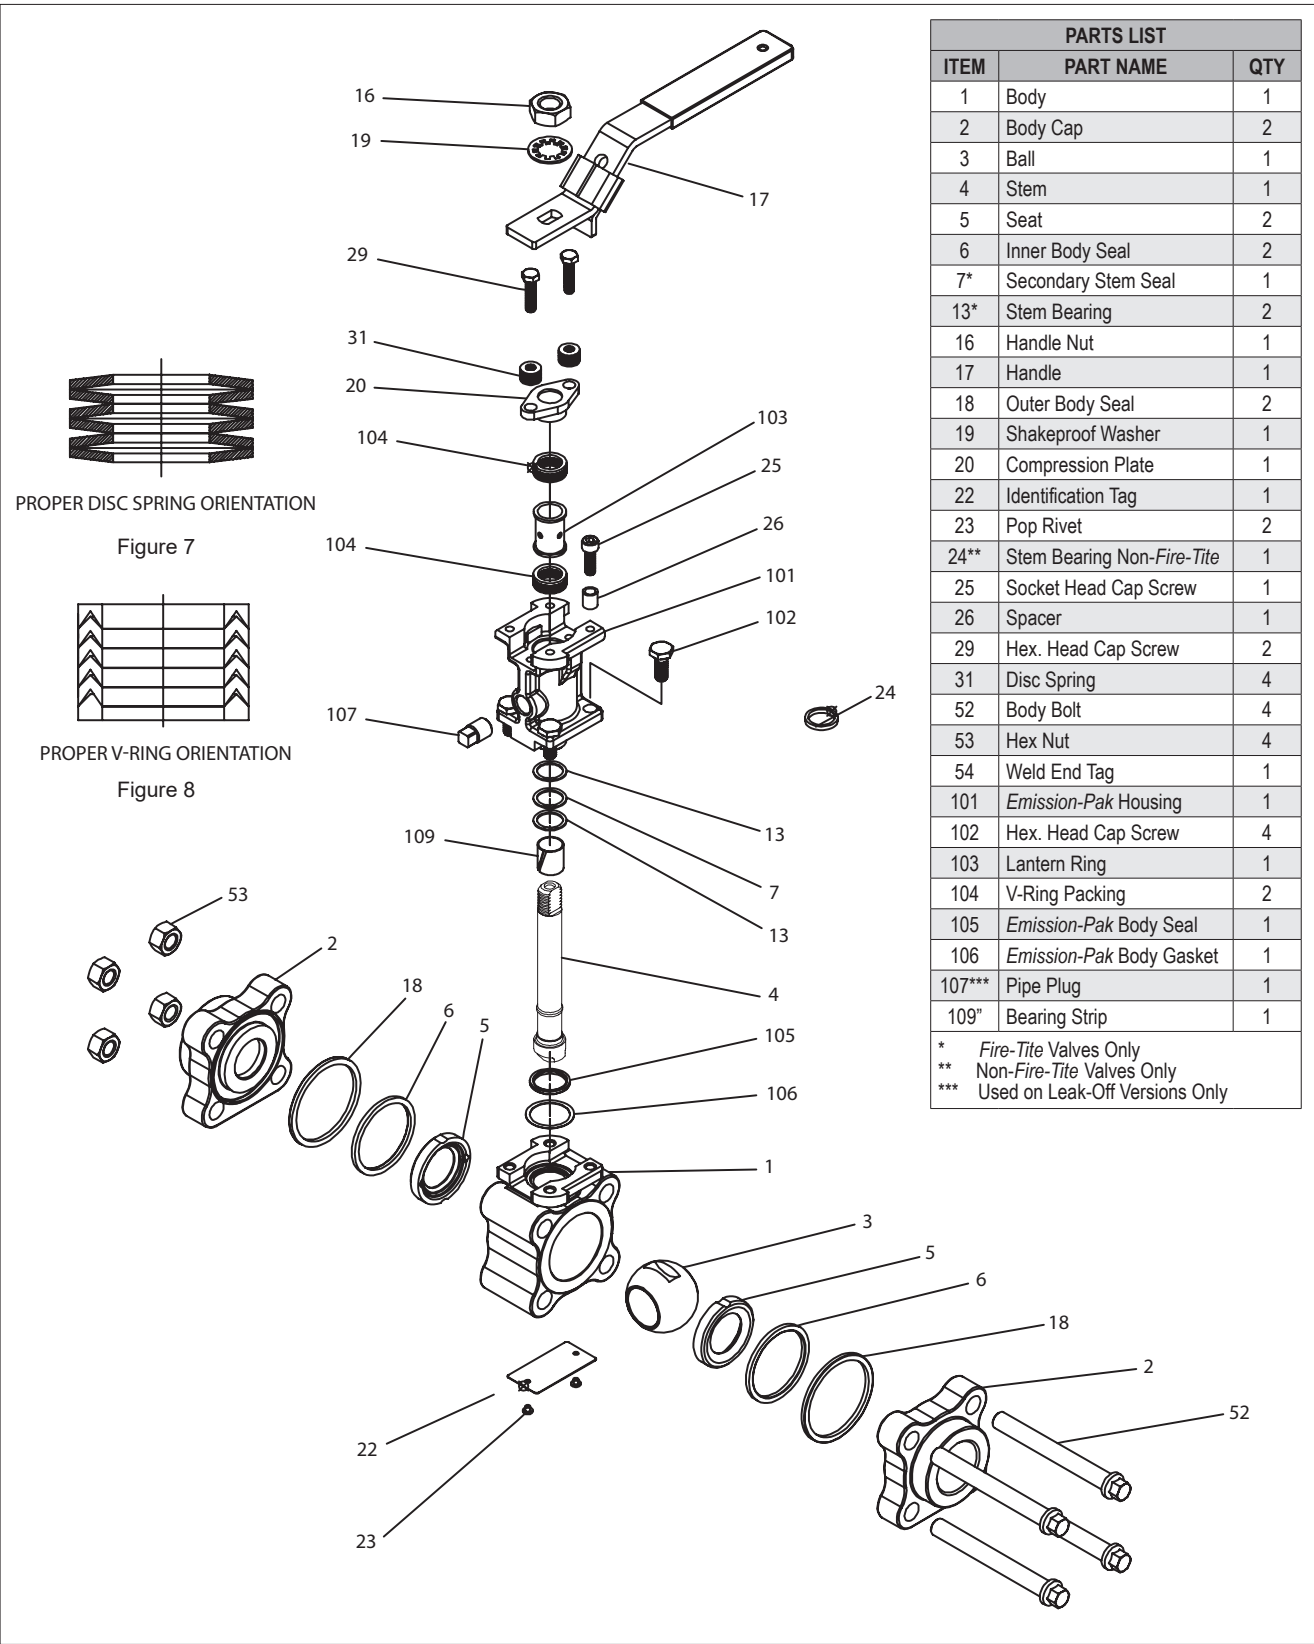

Figure 6
2. Check the stem (4) and ball (3) for damage. Pay particular attention to the sealing and bearing areas.
3. Check all sealing and gasket surfaces of the body (1), *Emission-Pak* housing (101) and body caps (2).
4. With a wire brush, clean threads of body bolts (52), body bolt nuts (53) and hex head cap screws (102) of foreign material, such as paint, thread locker, grime and commodity. Inspect the threads for damage or defects with appropriate ring or plug gauge. Repair any out-of-tolerance threads, or replace in-kind. Check that nut can be run up and down entire usable portion of the threads. See **Figure 6**.
- c. From **Figure 6**, the ballooned part number, part name and quantity required.
3. Carefully clean and polish the ball (3) sealing surface: It should be free of all scratches and grooves.
5. Place the bearing strip (109) on stem (4). For *Fire-Tite* valves slide the one stem bearings (13), the secondary stem seal (7), and the second stem bearings (13) onto the stem (4). (See **Figure 6** for proper orientation). For non-*Fire-Tite* valves slide stem bearing (24) onto stem.
9. Place body seal (105) and body gasket (106) in the body counterbore as shown in (**Figure 6**).
10. Insert the *Emission-Pak* subassembly into the body, being careful to not pinch body gasket (106). Insert four hex head cap screws (102) through the *Emission-Pak* housing and into the threaded holes in the body. Tighten the four screws to the torque values in (**Table 5**). Apply the torque evenly, alternating in a criss-cross pattern.
11. While pulling the stem (4) outward, tighten the hex head cap screws (29) to the torque values in (**Table 2**). Apply the torque evenly, alternating between the two screws so that the compression plate (20) remains parallel with the *Emission-Pak* housing bonnet.
12. Align the stem to the ball slot. Insert the ball (3) so that the internal stem blade fits into the ball slot (ball in closed position).
13. Working at either end of the body (1), place a seat (5) into the body. Fit it snugly against the closed ball.
- From **Figure 6**, the ballooned part number, part name and quantity required.